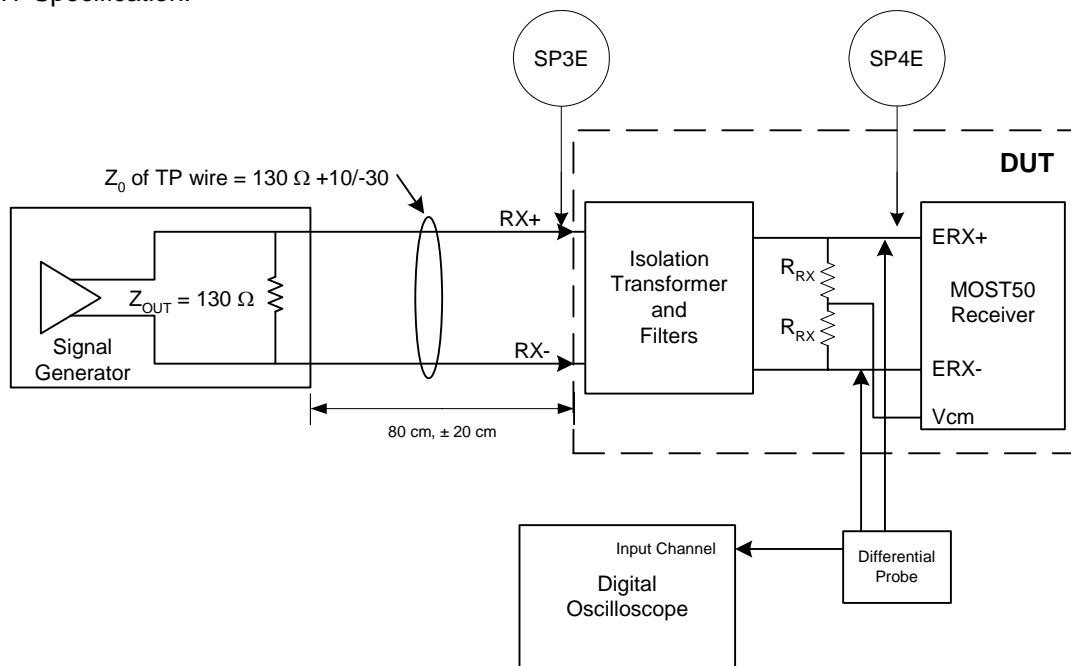

Figure 3-5: Device Receiver Tolerance Test Setup
A diagram showing the test setup used to measure the receiver tolerance is shown in Figure 3-5. The Signal Generator, which simulates the worst-case transmitter, transmits the SP3E signal specified in the ePHY Specification.
- Configure the system as shown in Figure 3-5 depending upon the type of DUT submitted for testing.